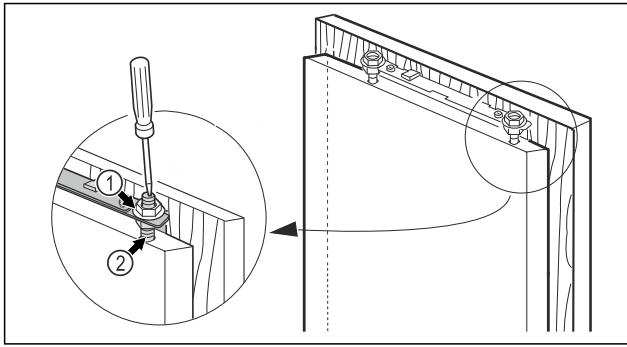

Fig. 46
- ▶ Tighten the lock nuts Fig. 46 (1) with a hexagon spanner 13, stabilising the adjusting bolt Fig. 46 (2) with a screwdriver.